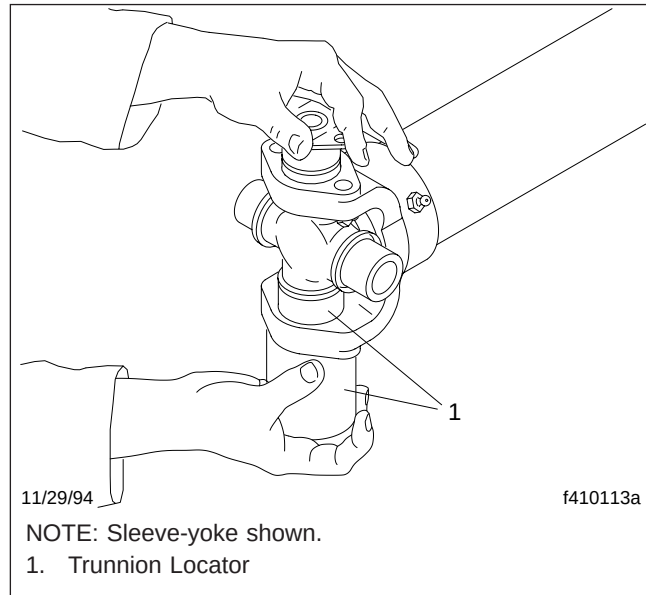

Fig. 8, Using a U-Joint Trunnion Locator
- 3.2 Move one end of the cross until a trunnion projects through the cross-hole, beyond the outer machined face of the yoke lug. Using a Spicer trunnion (journal) locator (see Specifications, 400), hold the trunnions in alignment with the cross-holes, while placing a bearing assembly over the projected trunnion, and aligning it with the cross-hole. See Fig. 8.